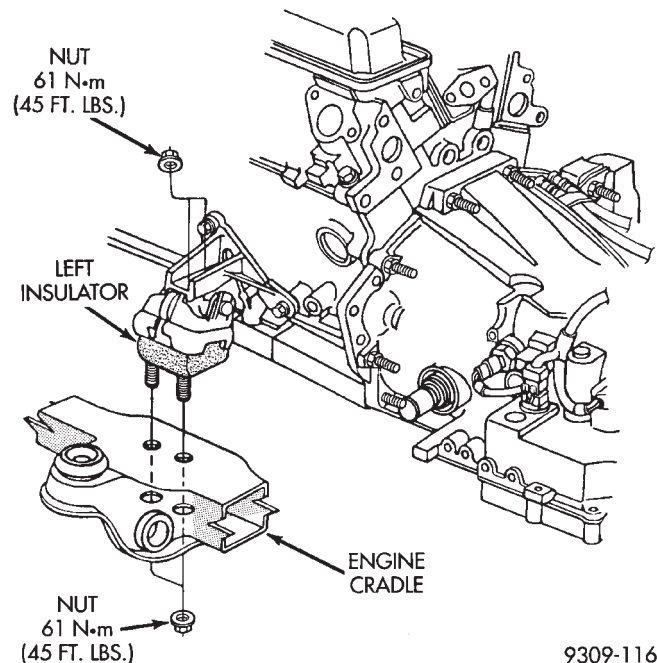

Fig. 2 Engine Mounting — Typical
- (1) Remove the isolator attaching nuts from top of the mounting bracket.
- (2) Raise vehicle on hoist.
- (3) Support the engine with a jack and a block of wood across the full width of the oil pan.
- (4) Remove the lower attaching nuts from the bottom of the isolator to the frame (Fig. 2).
- (5) Raise engine carefully with jack enough to remove the isolator from its mount.
- (1) Install mount onto the frame.
- (2) Lower the engine onto the isolator mount (Fig. 2). Remove jack from vehicle.
- (3) Tighten the isolator to frame nuts to 61 N•m (45 ft. lbs.).
- (4) Lower vehicle. Install the upper attaching nuts to mount and tighten to 61 N•m (45 ft. lbs.).